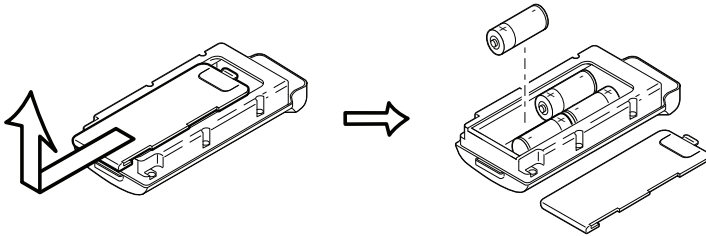

Figure 2-16. Remove Cover and Insert AA Batteries
To assemble the AA battery shell (Figure 2-16):
2. Insert four AA batteries as shown on the inside of the shell (and in Figure 2-16).